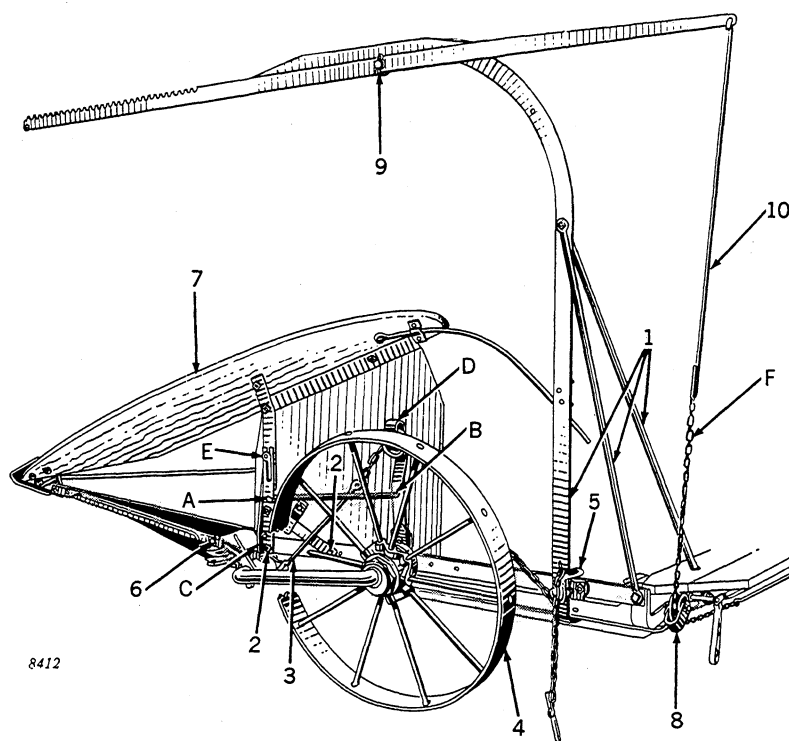

Figure 76
1. (Figures 76 and 77) Attach outside reel support post as shown.
2. (Figure 76) Remove angle post from outside divider support bar. Bolt post to support bar and to grain axle bracket, as shown. Bolt brace to inside of post.
3. (Figure 76) Hook grain wheel raising chain rod into axle bracket with hook end of rod out, and lay chain over platform.
4. Remove stop pin "C," Figure 76, in grain wheel axle. Hook bent end of parallel rod into post at "A" and into standard at "B" at the same time slip grain wheel into position and axle into bracket on platform.
5. (Figure 76) Run raising chain over pulley at "D" and secure in bracket with lock.
6. (Figure 76) Attach outside divider point assembly.
7. (Figure 76) Bolt divider sup-
8. (Figures 76 and 77) Attach rear outer sheave for reel support chain.
9. (Figure 76) Place outside reel rack in place on post and fasten with cotter pin.
10. (Figures 76 and 77) Attach reel support chains and rods. Long rod with long narrow hook down, attaches to outer reel rack. Be sure to run rod through eyebolt on rear of platform. There are additional links of chain in twine can if required. Adjust level of reel at "F," Figure 76.
9. Level reel pipe by lengthening or shortening reel support chain at "F," Figure 76.